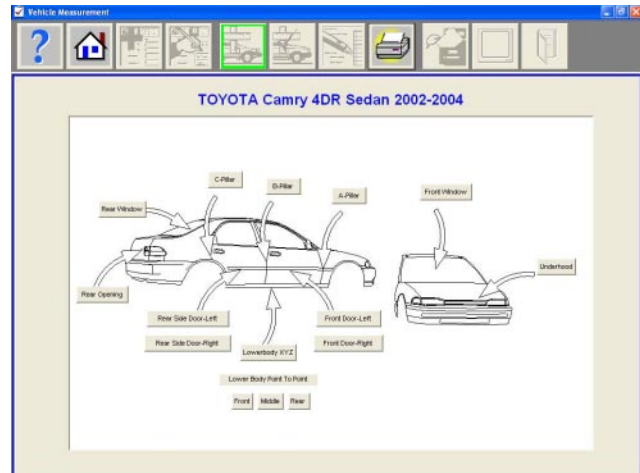

Figure 10
1. In this screen, select the box “Lowerbody XYZ” (Fig 10)